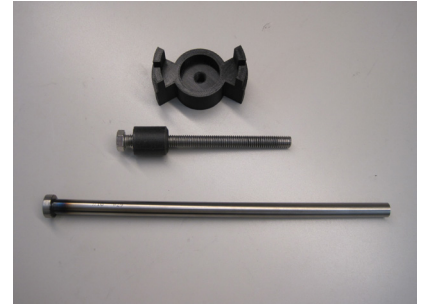

figure 28: Impeller Removal Tool includes: prong release tool, 5" long bolt, bushing, & drive pin.
1. To remove the impeller from the drive hub to replace bushings or trim an impeller you must use removal tool (P/N 211844) & a 9/16" socket & ratchet tool. **Important Note: Only use hand tools.** Air or power tools will cause damage to the impeller bushings and/or other components. See figure 28.